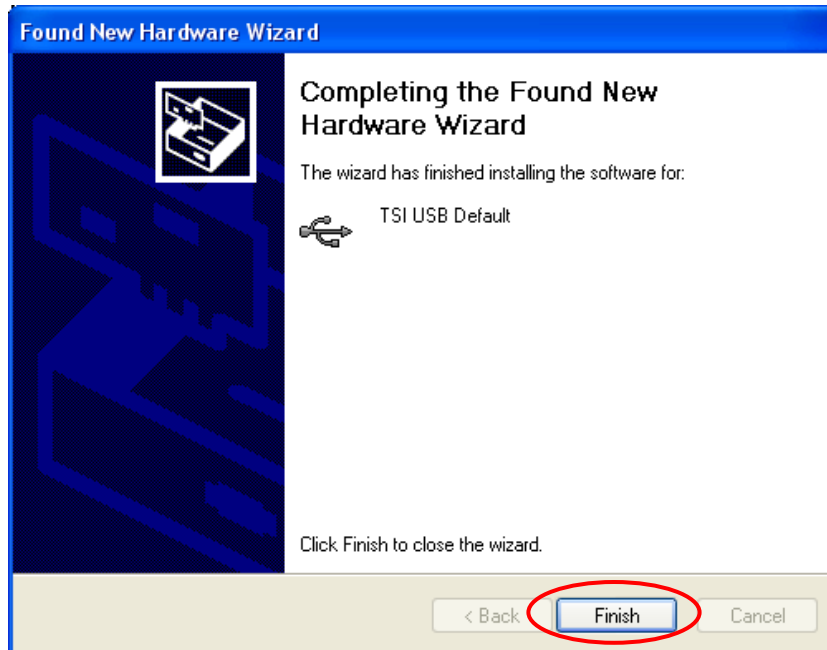

Figure 16
7. Make sure that the device installed without any errors. Select **Finish** to complete the device installation and exit the dialog (Figure 16).